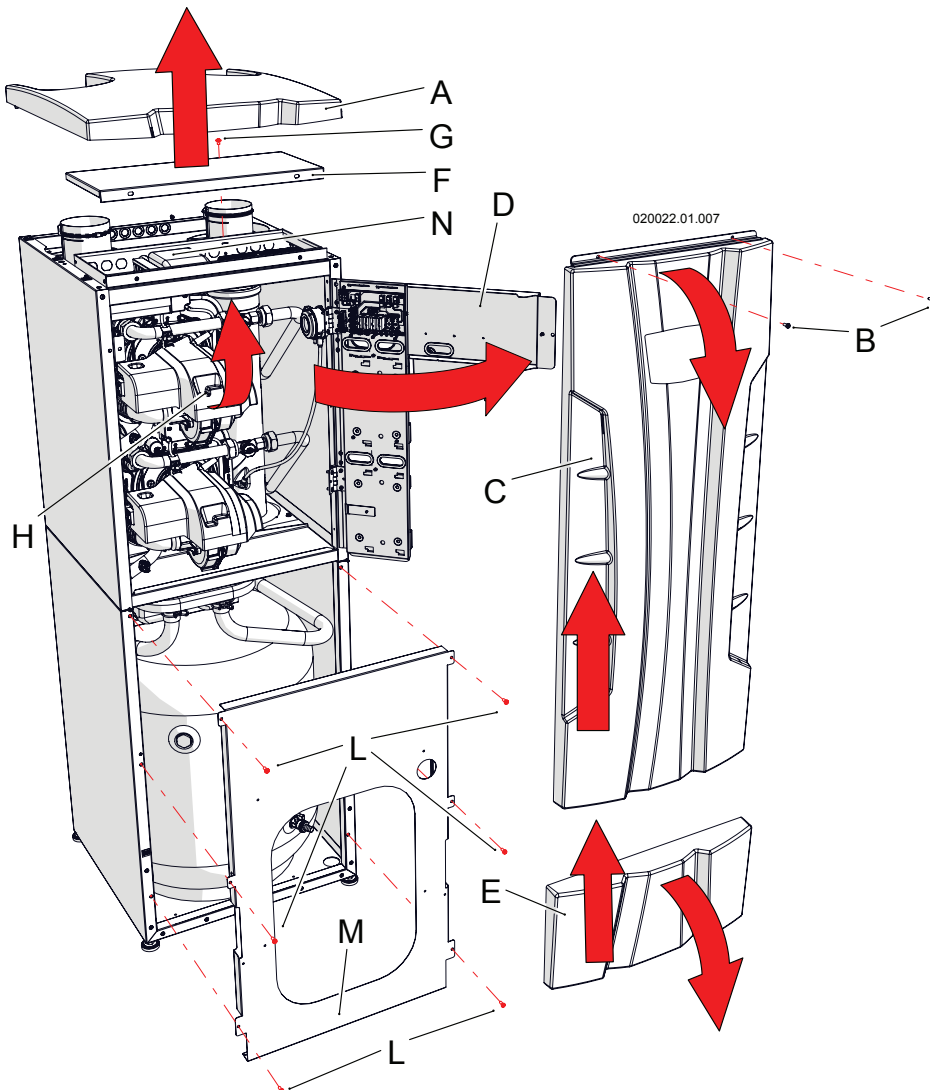

Figure 15-1 - Disassembling the casing and opening the control panel
To disassemble the casing, proceed as follows (refer to figure 15-1):
1. Follow what is shown in section 15.2 to remove covering "E" in figure 15-1;